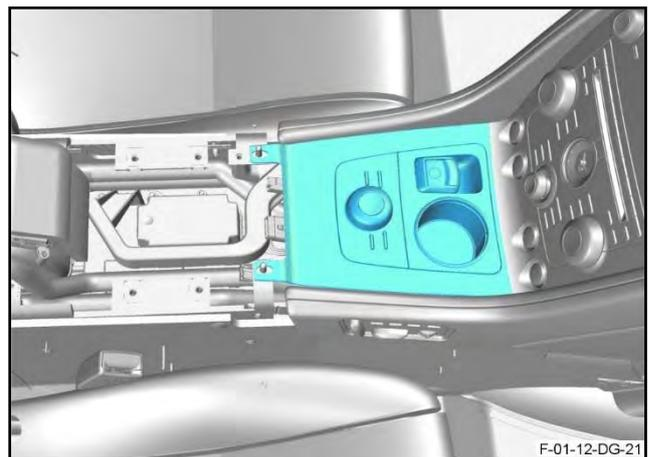

Figure 50
61. Remove the centre console (refer to Figure 50).